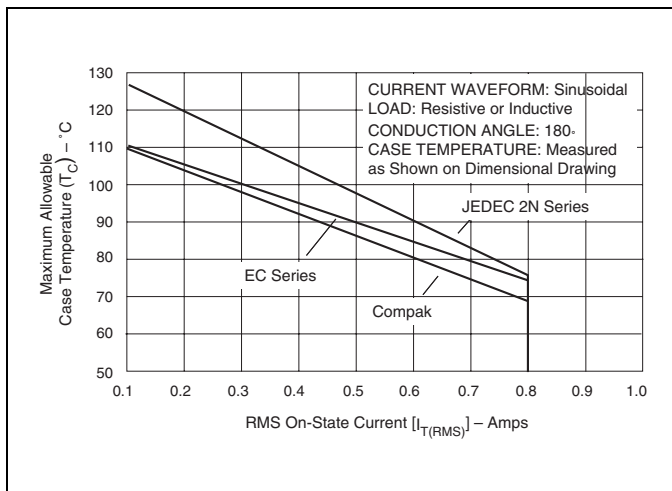

Figure E5.1 Maximum Allowable Case Temperature versus RMS On-state Current
- (1) See Figure E5.1 through Figure E5.9 for current ratings at specified operating temperatures.
- (13) See Figure E5.1 through Figure E5.9 for maximum allowable case temperature at maximum rated current.
- (14) IGT = 500 μA maximum at TC = -40 °C for T106 devices
- (15) IH = 10 mA maximum at TC = -65 °C for 2N5064 Series and 2N6565 Series devices
- (16) IH = 6 mA maximum at TC = -40 °C for T106 devices
- (17) Pulse Width ≤ 10 μs
- (18) IGT = 350 μA maximum at TC = -65 °C for 2N5064 Series and 2N6565 Series devices